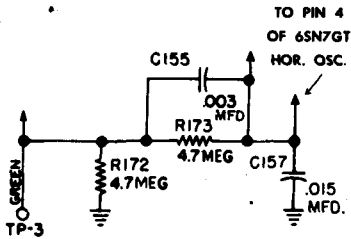

Fig. 33 - Crosley
**Reducing horizontal distortion at high brightness (see Fig. 33).**